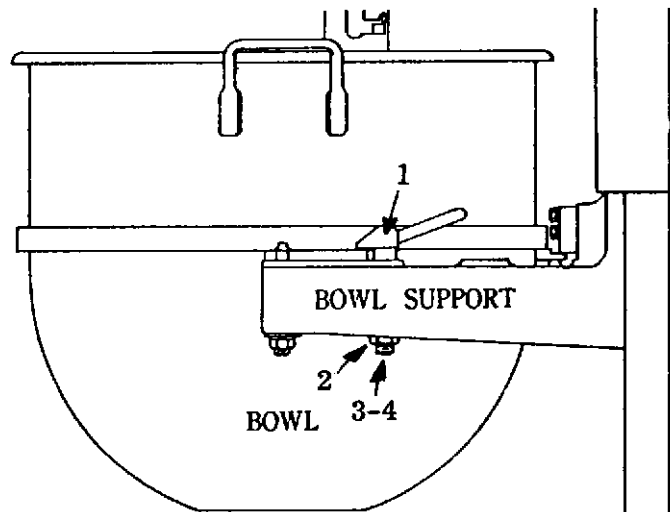

Fig. 7-3
- A. The tension of the bowl clamps (1, Fig. 7-3) is controlled by a spring washer (2, Fig. 7-3) and locknuts (3-4, Fig. 7-3). The tension of the bowl clamp should be tight enough to maintain its position while engaged.